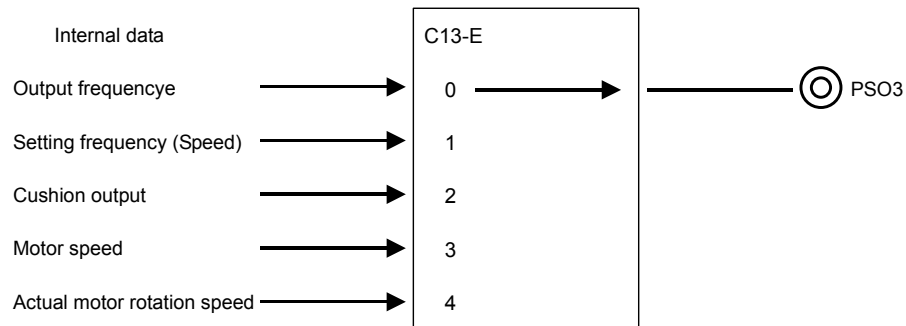

Fig. 5-8-3-a Pulse train output assignments
- 2) Set the internal data to be output as a pulse train with C13-E as shown in Fig. 5-8-3-a.